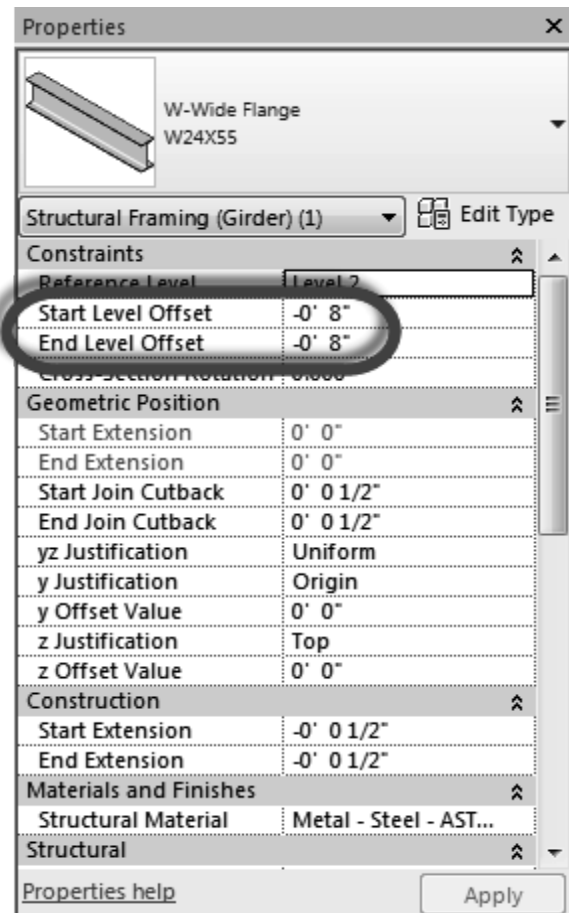

FIGURE 7-3.18 Beam properties
31. Select the **Beam** and view its properties via the *Properties Palette* (Figure 7-3.18).